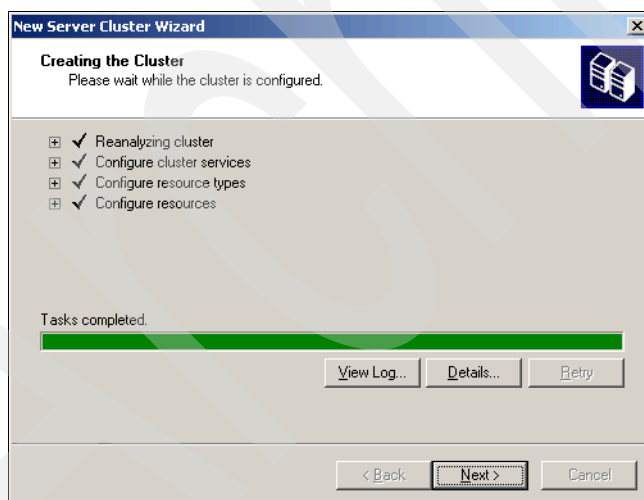

Figure 23-47 Create cluster
10. The creation of the cluster takes some time. When it is finished, the green line shown in Figure 23-47 is visible. If something went wrong, this line is red and the cluster is not installed. Click **Next** to finish the wizard.